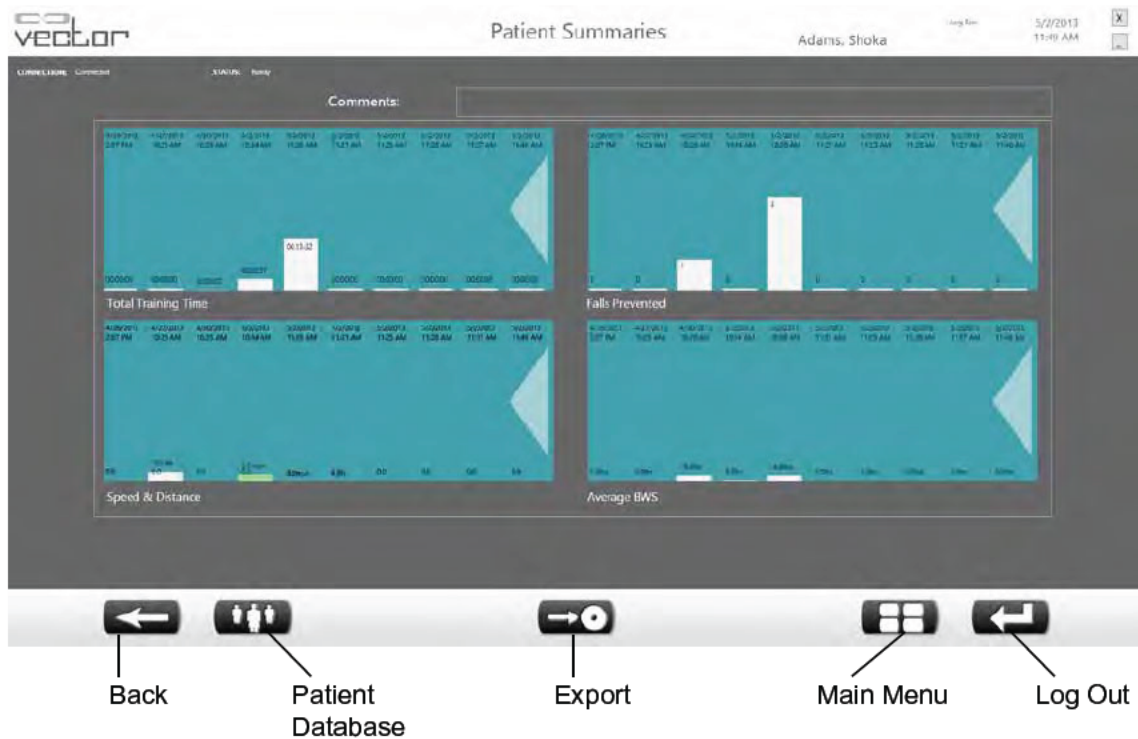

Figure 6-5: Training History Screen
- From the Patient Summaries menu screen select a patient and press on the Training History button. This screen will show the key parameters (as bar graphs) from multiple sessions for the selected patient. See Figure 6-5.